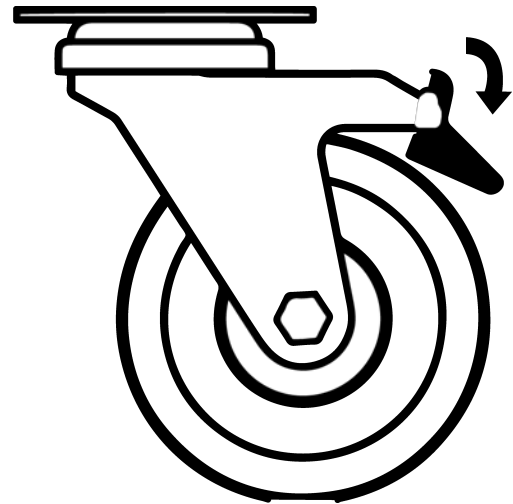

Fig 2. Castor Locked
- When placing the Humiditherm cabinet into place, ensure that the castors can be accessed so they can be locked (**Fig 2**) and unlocked (**Fig 3**). Please contact your supplier or Thermoline should there be any damage to the castors.